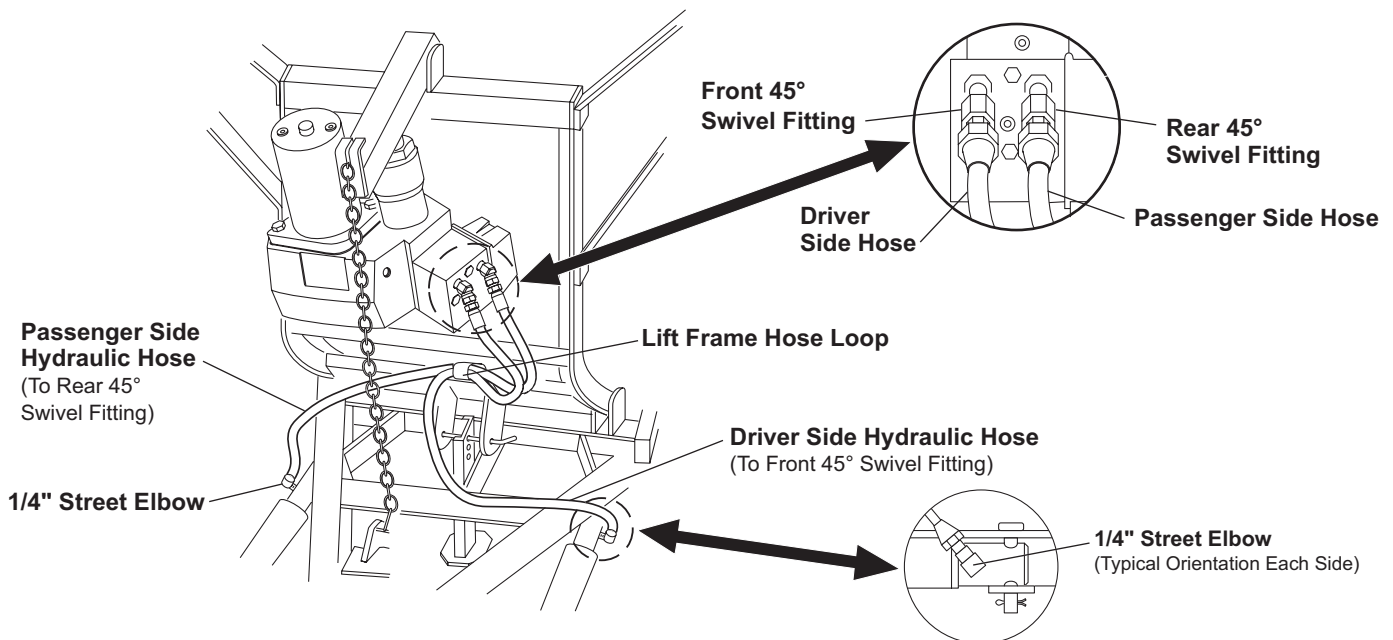

Figure 5
1. (Hoses and fittings are in the Hydraulics Box.) Remove top two 1/4" pipe plugs from front face of valve on hydraulic unit. Install two 45° swivel fittings into pipe plug holes. Tighten fittings so the hose connections will be straight down in line with valve body. **(See Figure 5.)**
2. Install a 1/4" street elbow into the threaded port in base end of each Hydra-Turn® ram. Tighten fittings so they are oriented 45° from vertical towards the blade. **(See Figure 5.)**